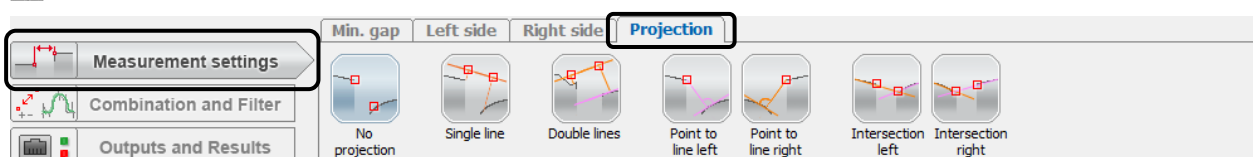

Fig. 3.47: "Measurement settings" input field, "Projection" tab sheet
- If not already done so, click on the "Measurement settings" button (see Fig. 3.47).
- If not already done so, click on the "Projection" tab (see Fig. 3.47).